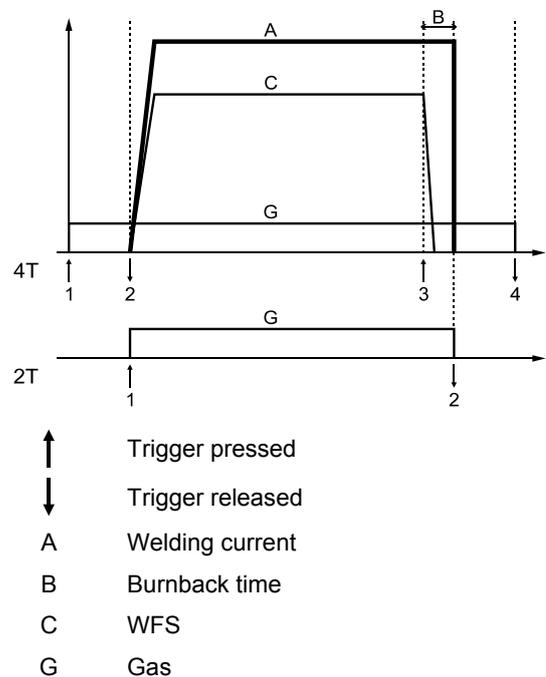

Figure 8.
27. **Gun Mode Switch:** It enables selection of 2-step or 4-step gun mode. The functionality of 2T/4T mode is shown in the Figure8.